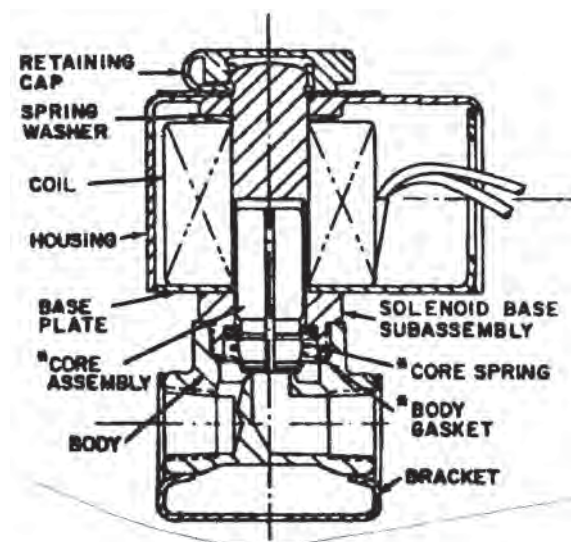

Figure 7-4. Automatic Cooling Water Shut-Off Valve
2. The interval timer is a four-hour timer that is factory adjusted (see Figure 7-4). The timer shuts off the water and opens the drain valve once each cycle. The timer allows the still to operate for four hours minus the time required for draining the still. Timer cycles can be readjusted as described in the Maintenance section.